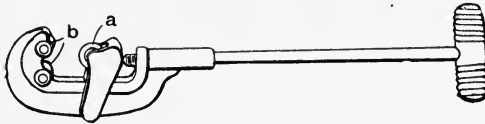

Fig. 3
**C**UTTING PIPE.—Small wrought pipes, ranging in size from  $\frac{1}{8}$ -inch to 4 inches in diameter, are usually cut on operations with a hand pipe-cutter. Pipes of larger size and sometimes small pipes of 2 inches in diameter and upward are cut with a cutting attachment to a pipe-threading machine. There are two principal types of hand pipe-cutters commonly used. They are respectively known as wheel-and-roller cutters, and three-wheel cutters. In the wheel-and-roller cutter, Fig. 3, the